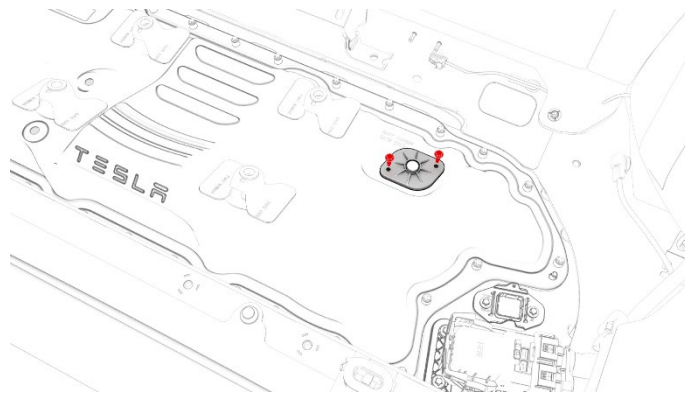

Figure 5
- Remove the 5-lobe bolts (x2) that attach the High Voltage probe cover to the penthouse cover (Figure 5), and then remove the High Voltage probe cover from the penthouse cover.